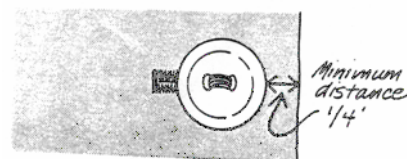

Figure 11
- The maximum distance for small buttons and the minimum distance for large buttons to the front edge of the garment is 1/4-inch. Half of the diameter of the button is standard for medium and large buttons. (Figure 11)